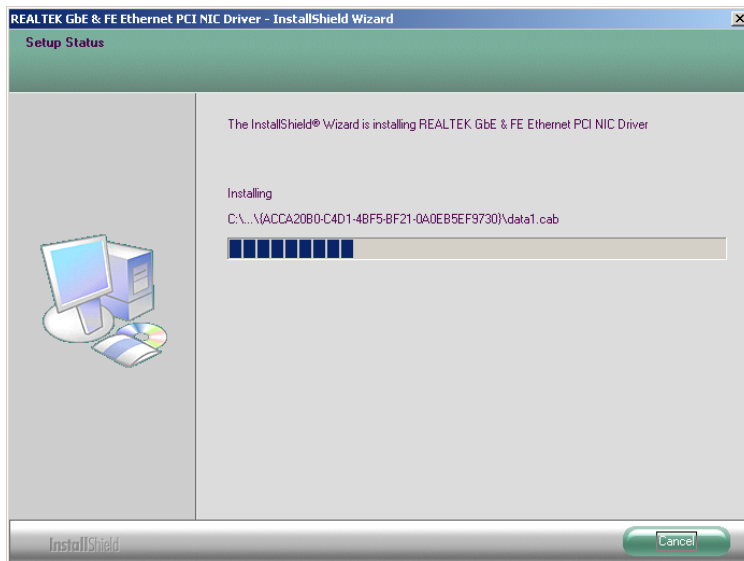

Figure 7-35: RTL8110SC Drivers Installing
Step 15: InstallShield starts to install the new software (Figure 7-35).